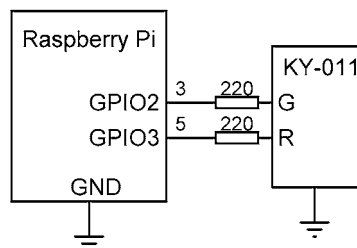

Figure 2.22 Circuit diagram of the project
**Circuit diagram:** The circuit diagram of the project is shown in Figure 2.22. The green and red LED pins are connected to port pin GPIO 2 (pin 3) and GPIO 3 (pin 5) of the Raspberry Pi respectively through current limiting resistors. The GND pin is connected to Raspberry Pi GND pin. The value of the current limiting resistor is calculated as follows: